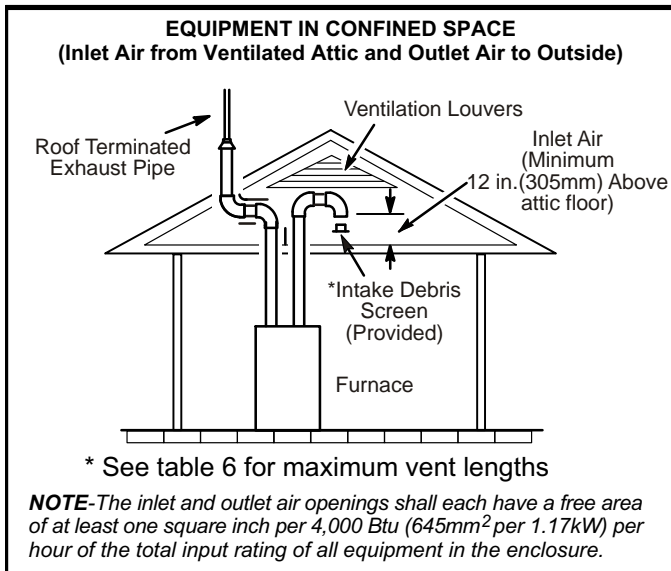
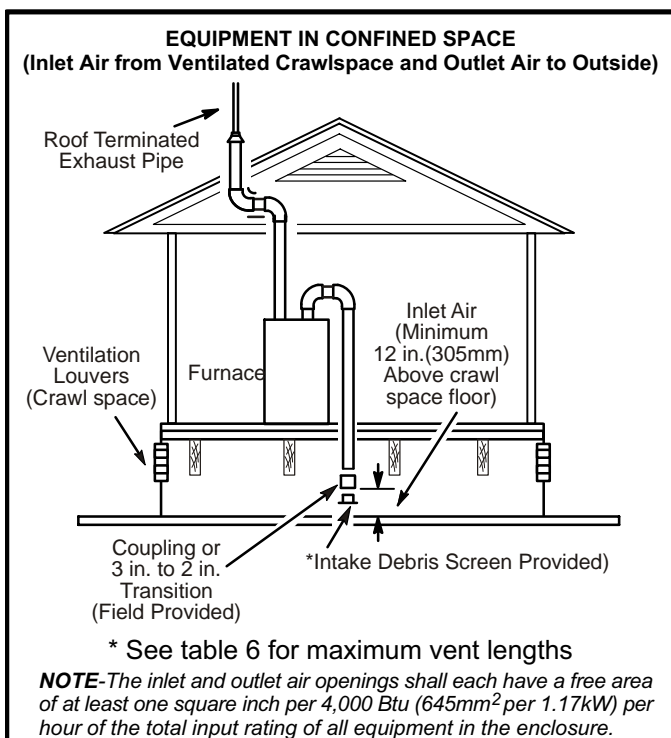

FIGURE 28
FIGURE 29
- 2 - If intake air is drawn from a ventilated attic (figure 28) or ventilated crawlspace (figure 29) the exhaust vent length must not exceed those listed in table 6. If 3" diameter pipe is used, reduce to 2" diameter pipe at the termination point to accommodate the debris screen.